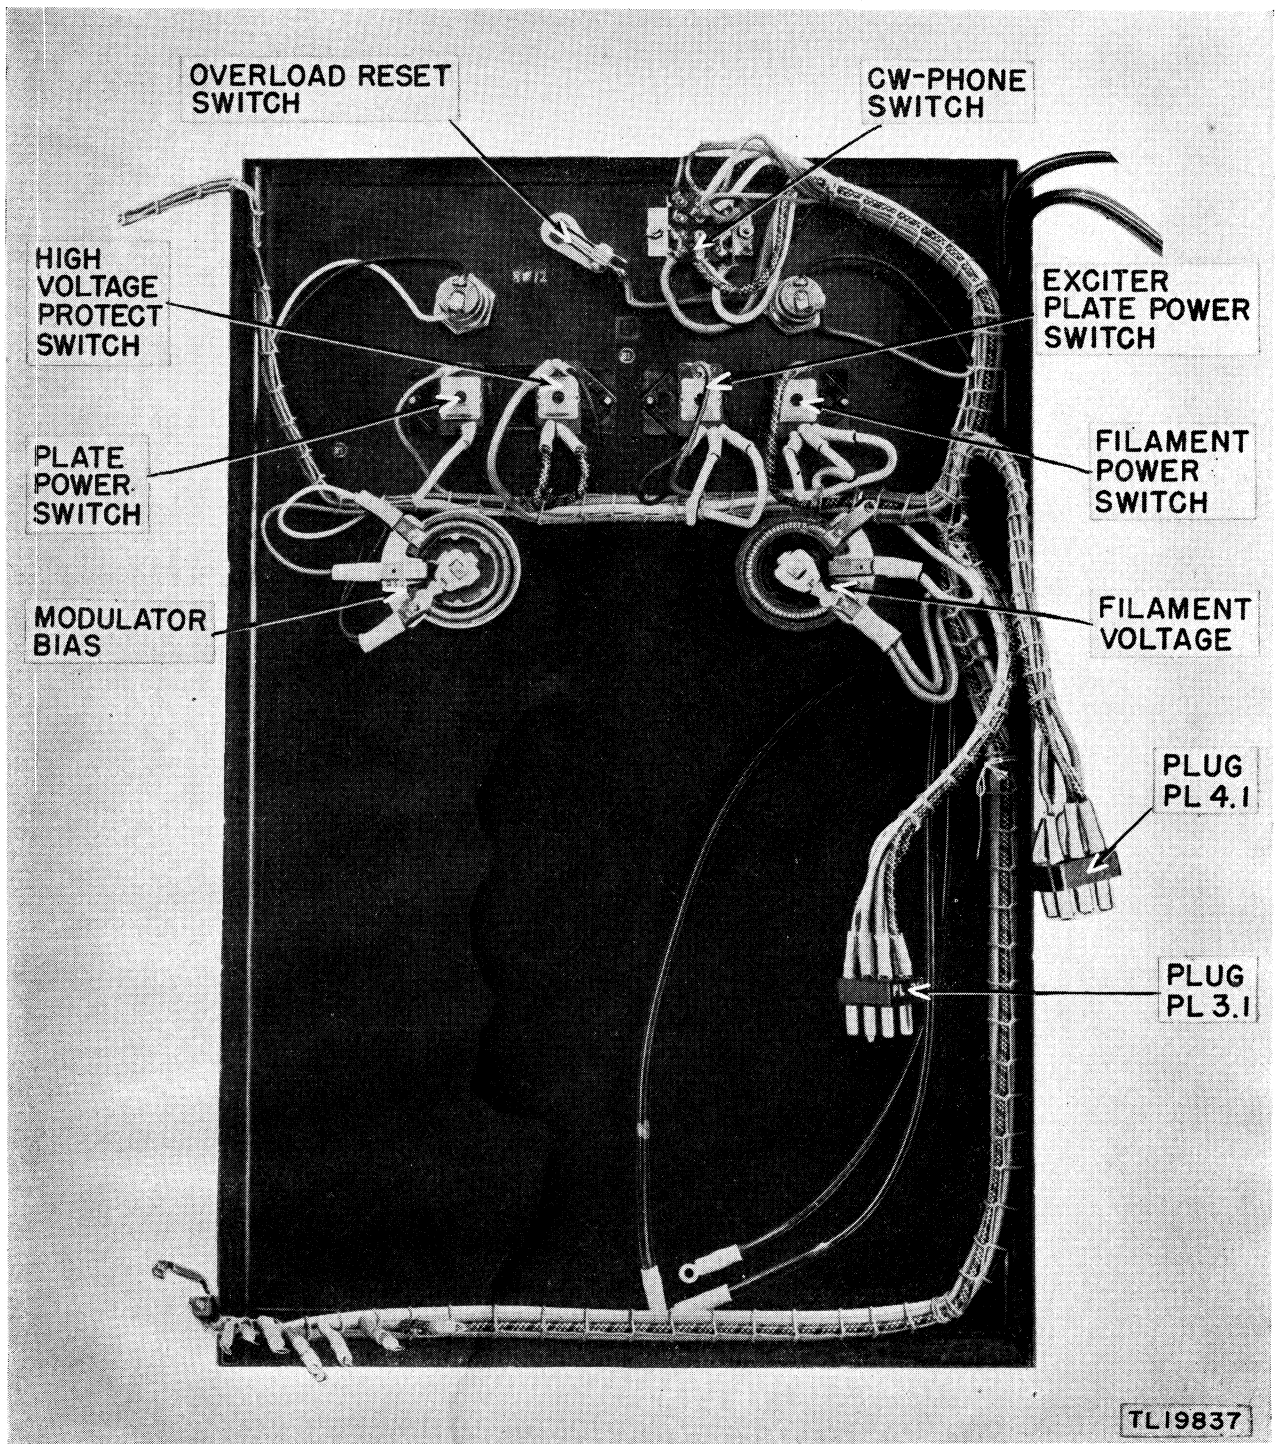

Figure 13. Radio Transmitter BC-610-A, -B, -C, and -D, power control panel, rear view.
(4) *Rheostat and potentiometer.* Check for loose control knob on the shaft, insufficient spring tension of sliding arm, cracks and chipped places on insulating body. (See fig. 13.) Tighten carefully any part of rheostat or potentiometer assembly that is known to be loose. Adjust the sliding contact to provide sufficient tension. Use long-nose pliers.